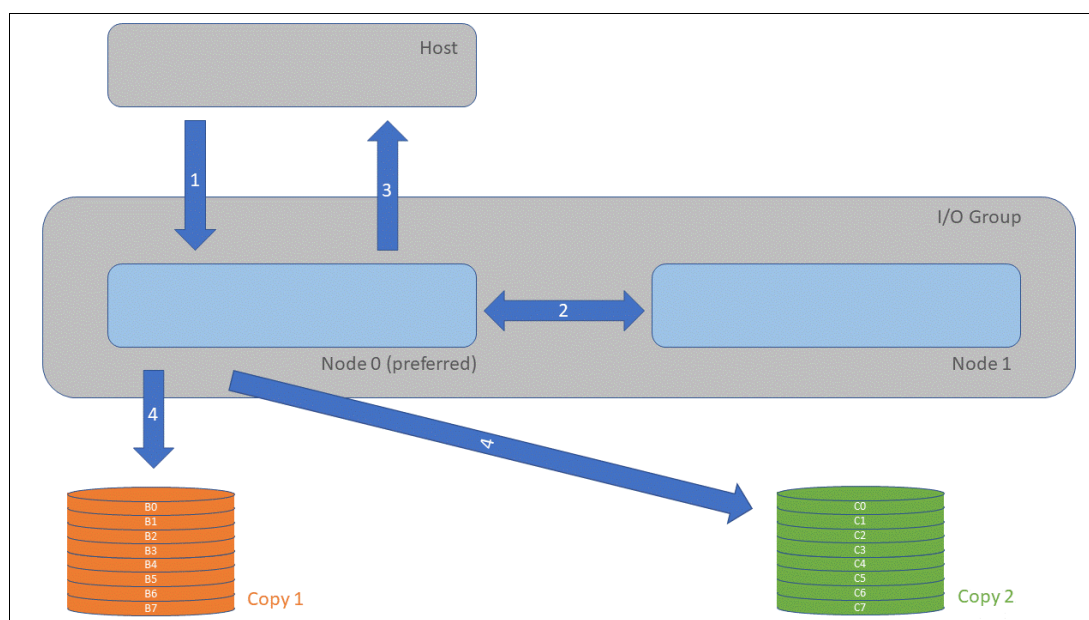

Figure 6-6 Data flow for write I/O processing in a mirrored volume
The host sends all write I/O operation requests to any volume to the preferred node for this volume. The preferred node is responsible for destaging the data from cache to persistent storage. Figure 6-6 shows the data flow for this scenario.
As shown in Figure 6-6, the writes are sent by the host to the preferred node for the volume (1). Then, the data is mirrored to the cache of the partner node in the I/O group (2), and acknowledgment of the write operation is sent to the host (3). The preferred node then destages the written data to all volume copies (4).